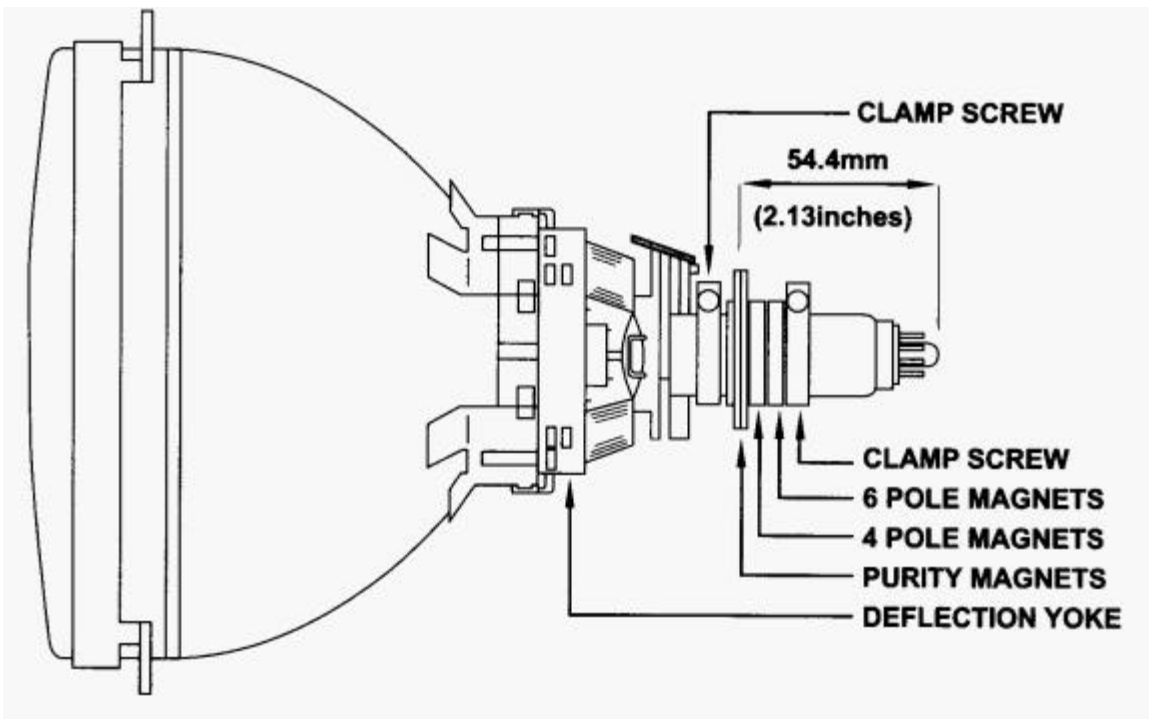

FIG. 3
1. Check correct location of all neck components. ( Refer to Figure 3 )
## STATIC CONVERGENCE ADJUSTMENT ( Refer to Figure 3 and 4 )
**IMPORTANT:** Before proceeding, make sure the location of the convergence magnet assembly on the neck of the CRT is as shown in Figure 3. The rear edge of this assembly must be positioned 65 mm from the tip of the CRT base. If not properly positioned, convergence adjustment may be difficult, if not impossible.